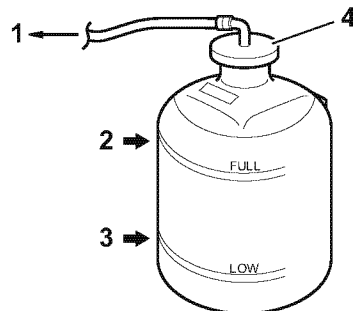

Figure 15
5. Check the coolant level in the reservoir. The level should be at the FULL mark (**Figure 15, (2)**). Add coolant if necessary.
6. Remove reservoir cap (**Figure 15, (4)**) to add coolant if necessary. Do not add water.
8. Check the rubber hose (**Figure 15, (1)**) connecting the reservoir to coolant tank/heat exchanger. Replace if damaged.